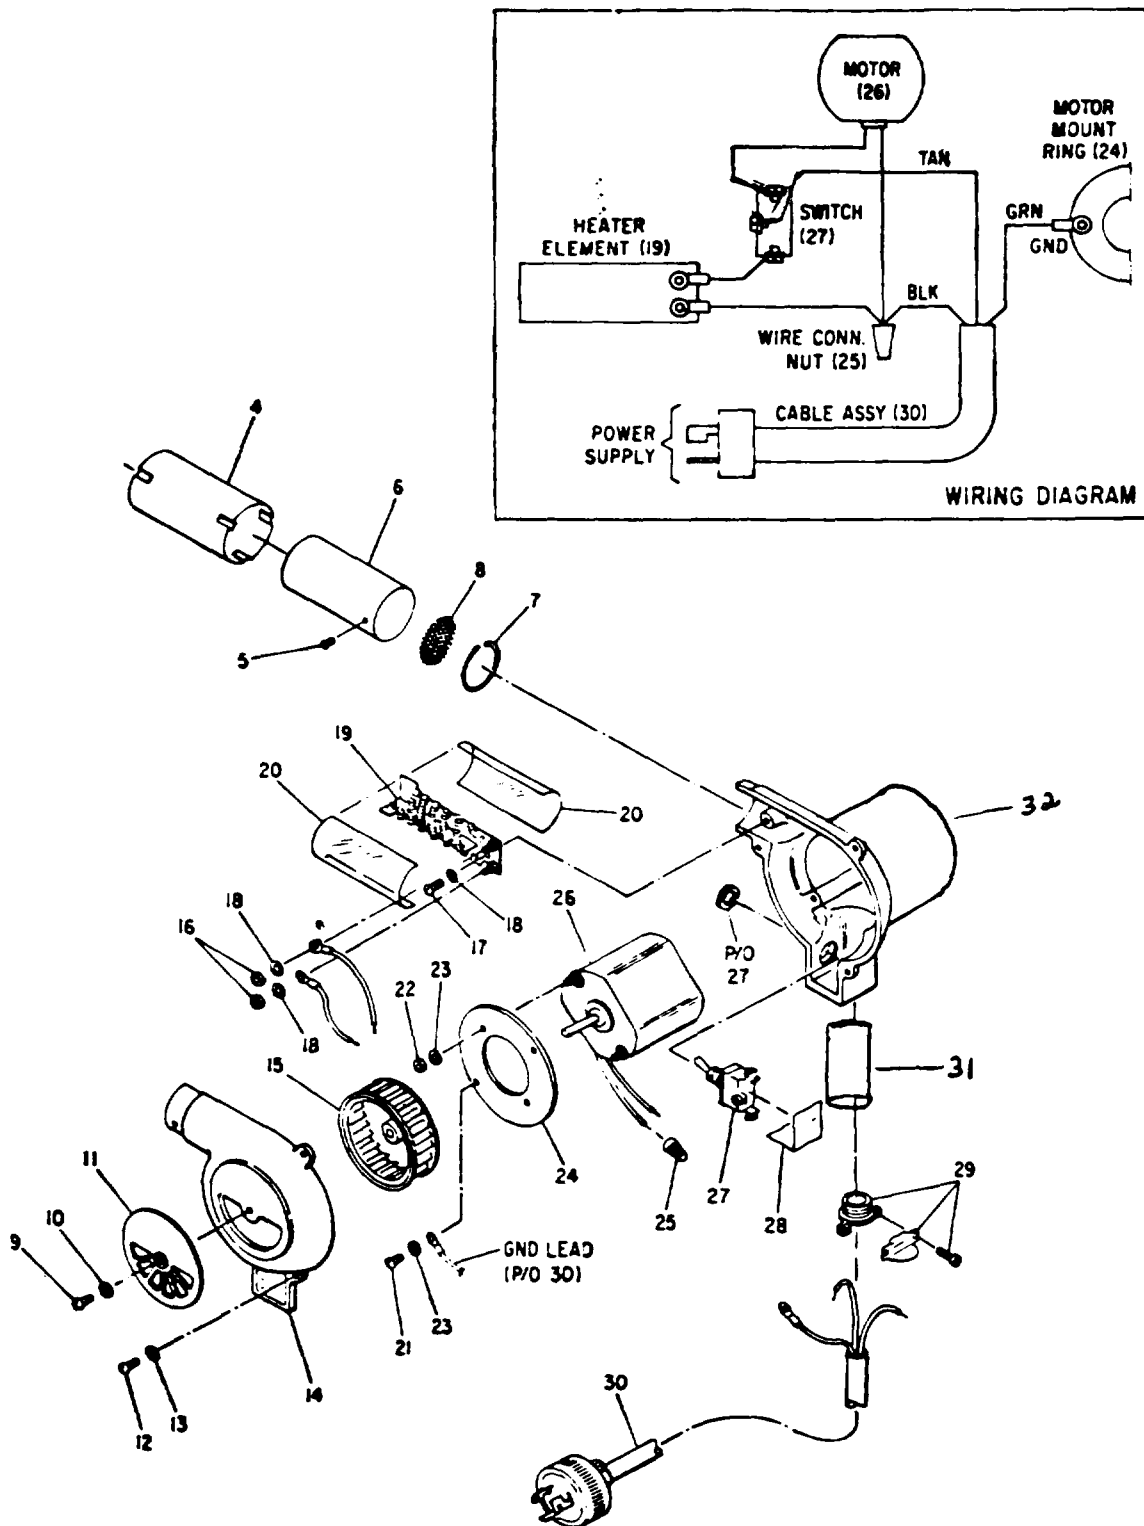

Figure 2. Thermal Gun Set, Exploded View
This heating device contains an electric motor which drives a blower wheel. Air from the blower flows across a heater element. When the heater element is unenergized (control switch in the COOL position) , a cool stream of air emanates from the gun nozzle. When the control switch is placed to Heat the heater element is energized and will produce heat that is forced from the gun nozzle in a concentrated stream by the blower wheel. In the HEAT position, the elevated temperature of air flow is almost instantaneous and can be controlled within a range of 300°F to 500°F by an adjustable intake cover on the side of the unit. See Fig. 2, the electrical schematic/wiring of the thermal gun.
(1) When replacing leads to electrical components check the schematic/wiring inset of Fig. 2 and identifying tags on each lead.
(2) Stagger mica insulation sheets (20, Fig. 2) to completely insulate the heater element (19). Wrap the sheets around the heater element before installing cover (14) and Nozzle (6). Place nozzle over the heater element and mica carefully. Do not tear the mica insulation.
(3) After the gun has been reassembled, check air flow distribution by running the gun in HEAT and observing the color of the element on both sides of the ceramic. If one side is much brighter than the other, reposition mica after nozzle has cooled.
THE PARTS LIST AND ACCOMPANYING ILLUSTRATION (FIG. 2) ARE SELF-EXPLANATORY.